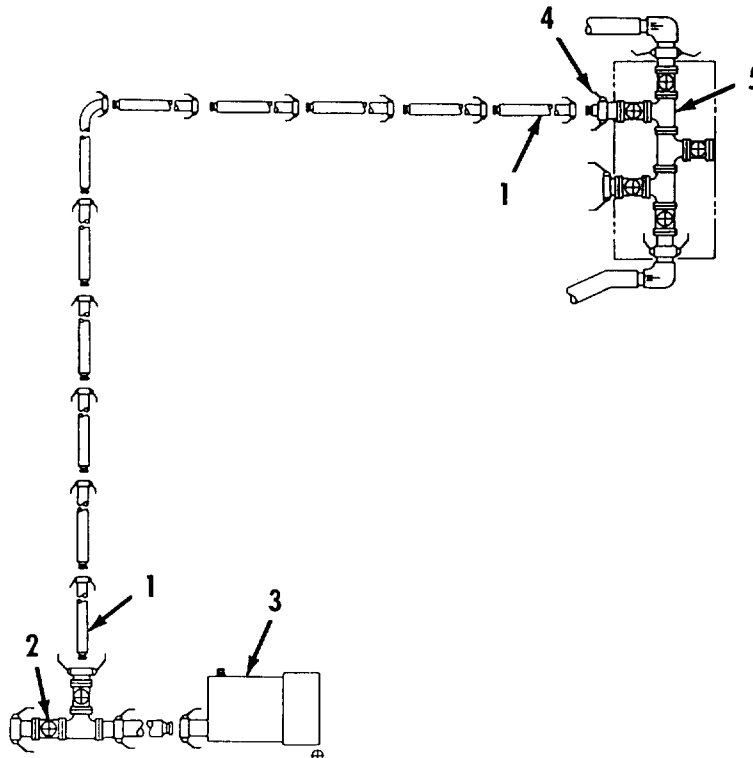

Figure 2-45. Fuel System - Fuel Return Hoses Removal.
- d. Fuel System - Fuel Return Hoses Removal. Refer to figure 2-45.